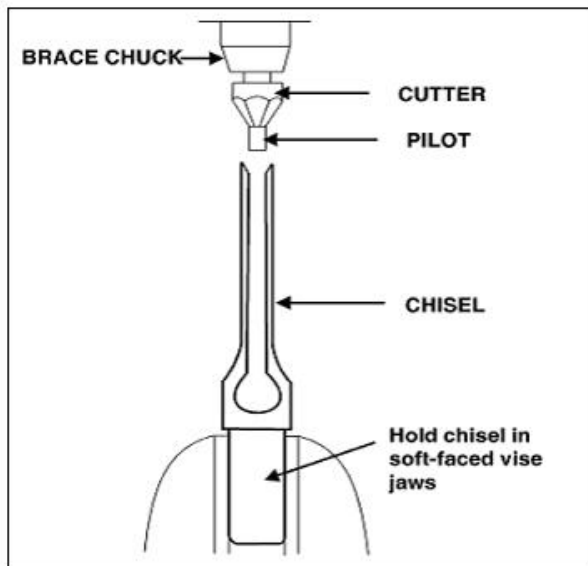

Fig 8
- Sharpen the chisel with a mortise and tenon chisel with the correct size guide. (Pilot size will vary depending on the size of the chisel). Two to three turns of the cutter in the carpenter's bracket chuck are enough to sharpen the chisel, as shown in Figure 8.